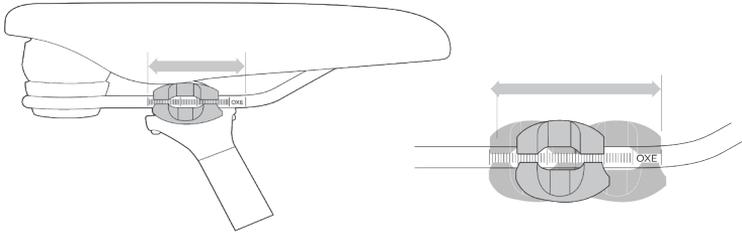

fig. 5
**2. Front and back adjustment.** The saddle can be adjusted forward or back to help you get the optimal position on the bike. Ask your dealer to set the saddle for your optimal riding position and to show you how to make this adjustment. If you choose to make your own front and back adjustment, make sure that the clamp mechanism is clamping on the straight part of the saddle rails and is not touching the curved part of the rails (fig. 5), and that you are using the recommended torque on the clamping fastener(s) (Appendix D or the manufacturer's instructions).